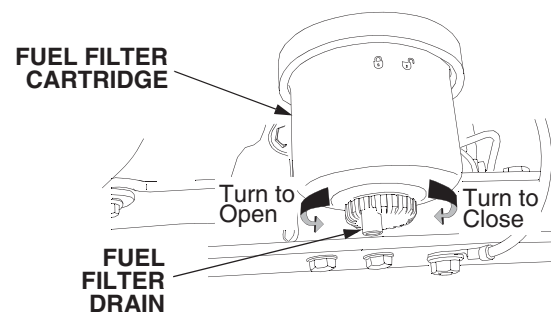

Figure 59
Drain the condensate from the fuel filter before each use (Refer to Figure 59).
- Stop the engine and place a suitable container beneath the filter drain valve. See Figure 59.
- Turn the filter drain counterclockwise to open. Allow the water at the bottom of the filter to drain until only pure diesel fuel drains from the valve. See Figure 59.
- Turn the filter drain clockwise to close. Refer to Figure 59.